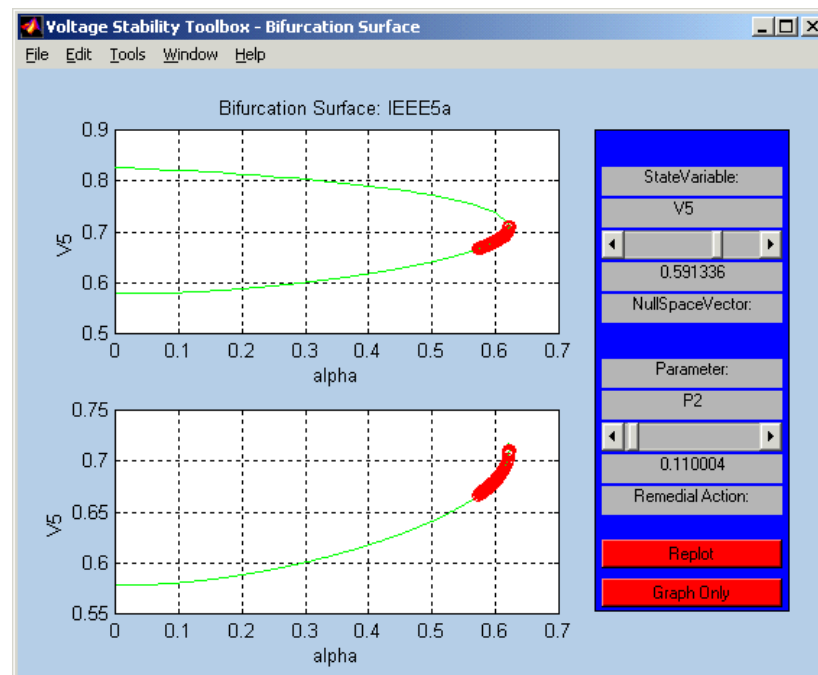

Fig. A.21 A typical result of the dynamic bifurcation analysis
- The resulting bifurcation surface is depicted in Fig. A.21. Any of the bus voltages or phase angles can be plotted by using sliders in that window. The green color represents the small-signal stable equilibrium points while the red color represents the unstable equilibrium points.